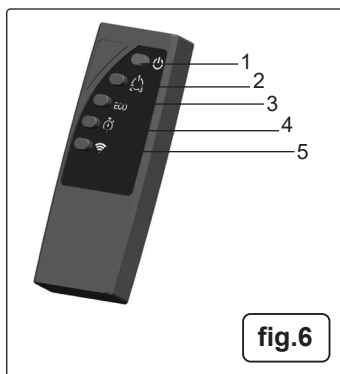

fig.6
- 5.2.2. The heater is supplied with a remote control hand set (Batteries are not included). See fig.6 for functions and settings on the following page.